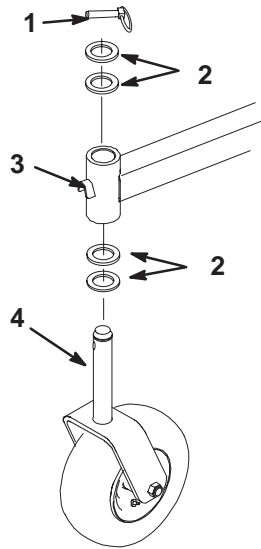

Figure 61
2. Remove the locking pin and spacer(s) from the top of the caster wheel fork (Fig. 61).
6. Inspect the caster wheel fork for wear and replace if necessary (Fig. 61).
7. Slide the caster wheel fork through the bushings in the mounting tube. Replace the spacers(s) onto the fork and secure with the retaining ring (Fig 61).